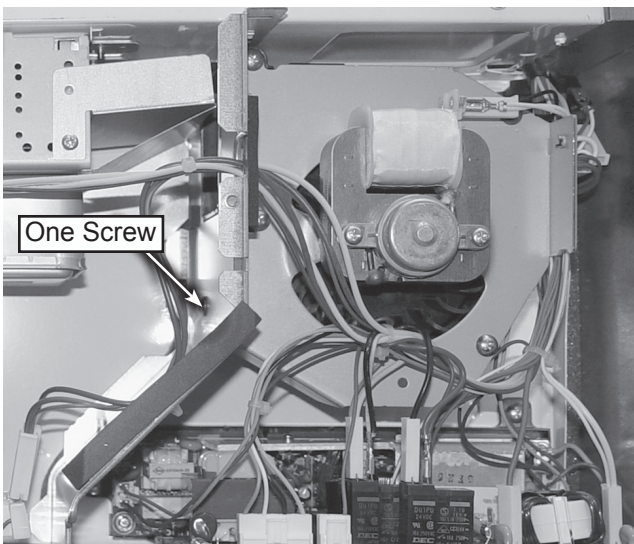

Figure 1
5. Remove one screw from the fan motor angle that secures the fan motor assembly, see figure 1.